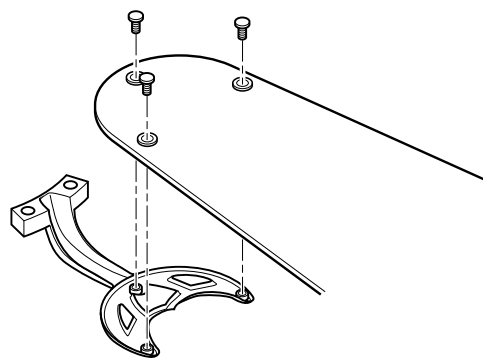
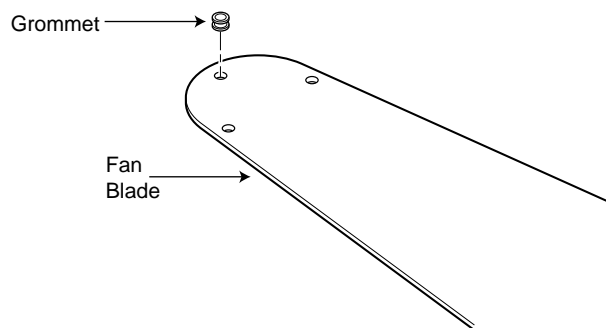

Figure 11
Figure 12
- A. Attach wood blades to blade brackets using (3) screws for each blade. See Figure 11. If your blades have large holes you must first insert the rubber grommets into the holes. See Figure 12.